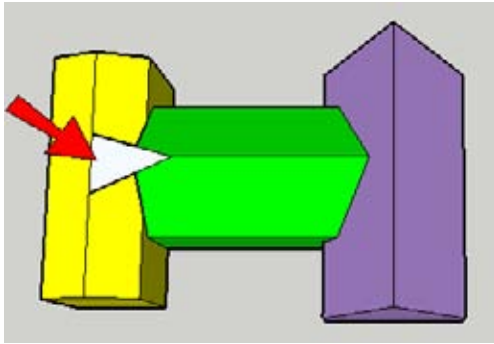

Figure 5-61
11. Draw the same line for the other side of the green roof. This creates the triangle that needs to be added to the far yellow face (Figure 5-61). If your triangle cuts into the green faces, trim the extra faces.